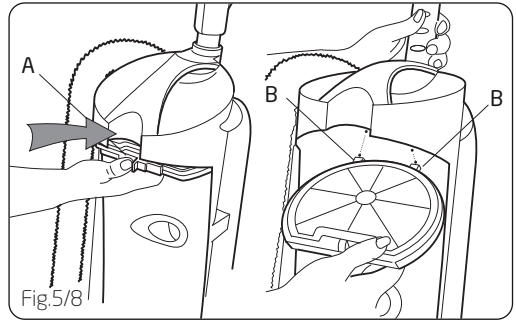

Fig.5/8
Allow both filter frame and filter to air dry for 24 hours before replacing filter into filter frame. Reposition filter frame cartridge by inserting tabs (B) into slots on back of housing. Rotate filter cartridge frame up toward top of housing and snap closed. top of dirt cup cavity and snap closed (Fig.5/8).